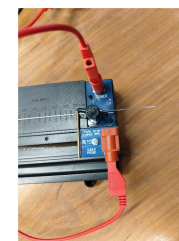
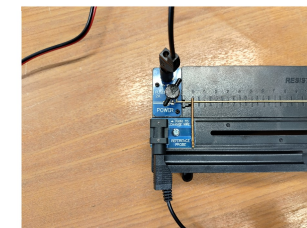

Figure 2: Right Hand Clamp
Figure 3: Left Hand Clamp
5. Install the copper wire in the apparatus. Slide from left or right using the white line-up hash marks. Figure 2 shows the right hand side as the wire slides in. Note that on the right hand side, the wire is on the far side of the silver clamp (with black handle), but on the left hand side the wire will be on the near side of the clamp as shown in Figure 3. This prevents the wire from bowing as you tighten the clamps.